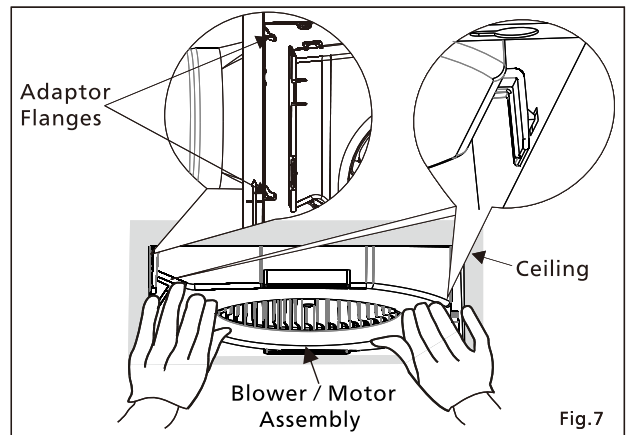

Fig.7
1. Insert the Blower / Motor Assembly by sliding it into Adaptor flanges. Then press lock the Blower / Motor Assembly into the Housing Can until the Blower "clicks" into place for temporary fixation. (Fig.7)